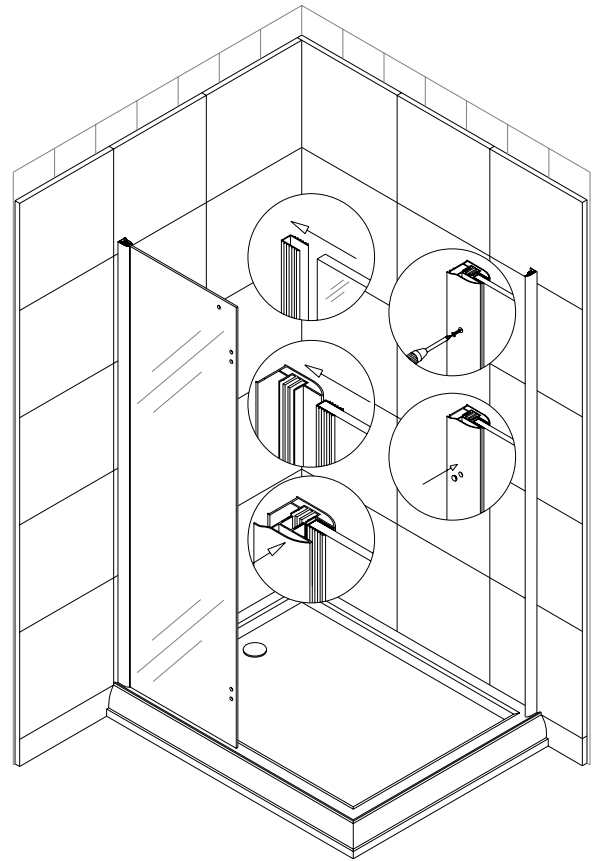

Fig 2
2. Have out the **Narrow Stationary Glass panel (2)**. Locate a small hole on the stationary glass. This hole must be located on the top and toward the door. Place a **U-Shape Seal Gasket (17)** on the long (vertical) side of the glass panel; fit the glass with the gasket into the position (fig 2).
3. Attach the second part of **wall profile (1)** to the **L-shape profile** using **4X16 flat head self-tapping screw (12)** and fasten tight the profile so to secure the position of the stationary glass. Cover the holes with **Decorative cover (11)** (fig 2)